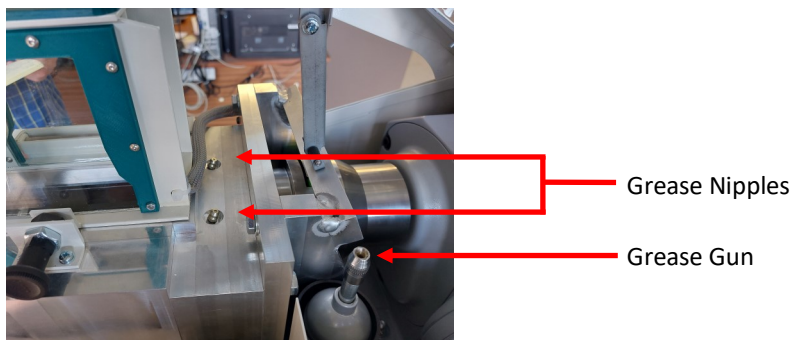

Figure 29
3. Remove the grease gun from its housing and place the nozzle end onto one of the 2 grease nipples on the rear of the cutter box shown in figure 29.